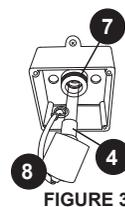
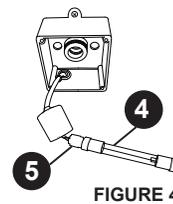
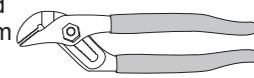
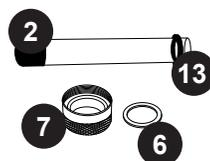

FIGURE 3
FIGURE 4
FIGURE 5
FIGURE 6
2. Once the UV bulb has cooled off remove the CLEARRAY System enclosure cover (10) and gasket (9) by removing the four screws (11).
3. Remove the black bulb boot (8) by sliding it over the cable away from the quartz seal compression nut (7), Figure 3.
4. Slowly remove the UV bulb (4) out of the quartz tube.
5. Remove bulb socket (5) from the UV bulb (4), Figure 4.
6. Remove the quartz seal compression nut (7) by turning it **counterclockwise**, Figure 3. Use a pair of channel-lock pliers if needed, Figure 5. You will notice that there is a stainless steel compression washer (6) which slides over the quartz tube, save the washer (6) for later use, Figure 6. There is also a black seal ring (13), grasp the black seal ring; slowly and carefully remove the quartz tube.
7. Now you are ready to clean or replace the quartz tube (2). For the cleaning quartz tube (2), follow steps 8 and 9 then proceed from step 10. For replacing quartz tube (2), skip steps 8 and 9 and proceed from step 10.